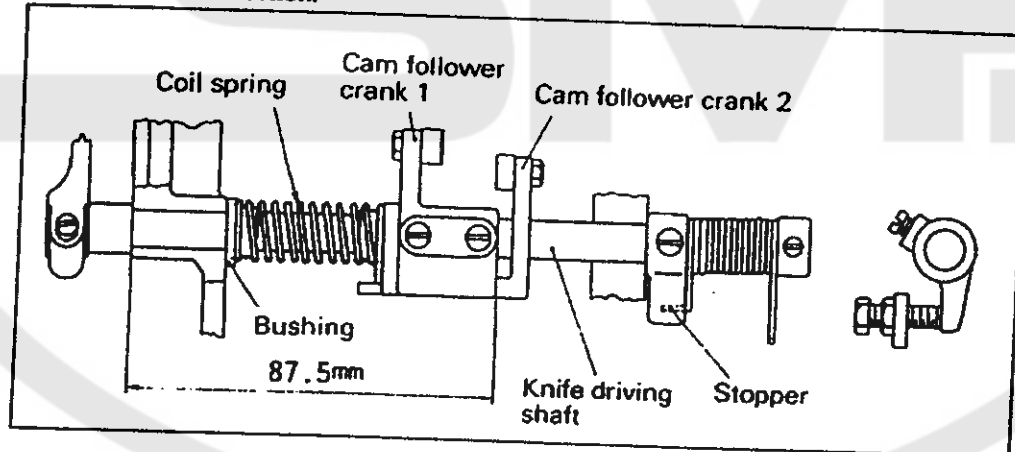

Fig.36
- (1) The standard position is illustrated as Fig.36.
- (2) When assembling, the knife driving shaft must first be put through the drive arm.
- (3) Cam follower crank 1 must be positioned as illustrated to the right, and secured on the recess located on the knife driving shaft.
- (4) The stopper must be secured on the recess in such a way that the knife driving shaft is snug and smoothly rotates in the shaft direction.